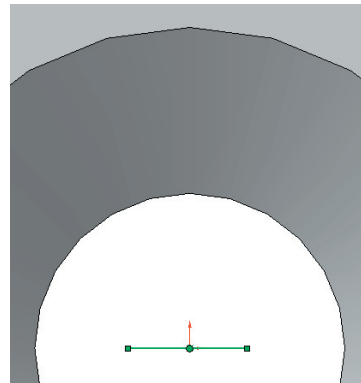

Fig. 12
Step 6. **Shift click** the line and the Origin to select both (Hold down shift key and click both line and Origin), **Fig. 12**.